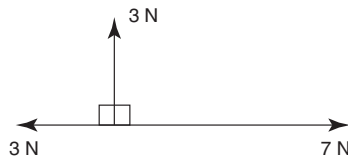

Figure 3.34
14. The magnitude of the resultant of the vectors shown in Figure 3.34 is: